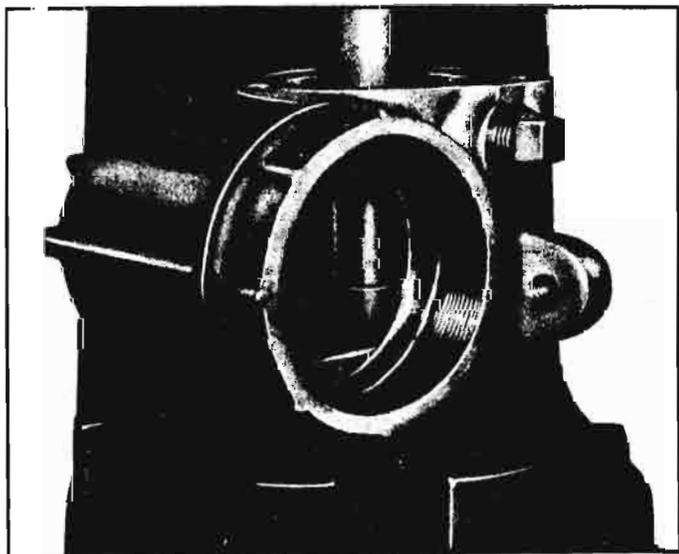

Fig. 4-15—Replacing Sector Shaft Bushing
2. Press new bushing into position using Tool J-8366-1 (fig. 4-15).